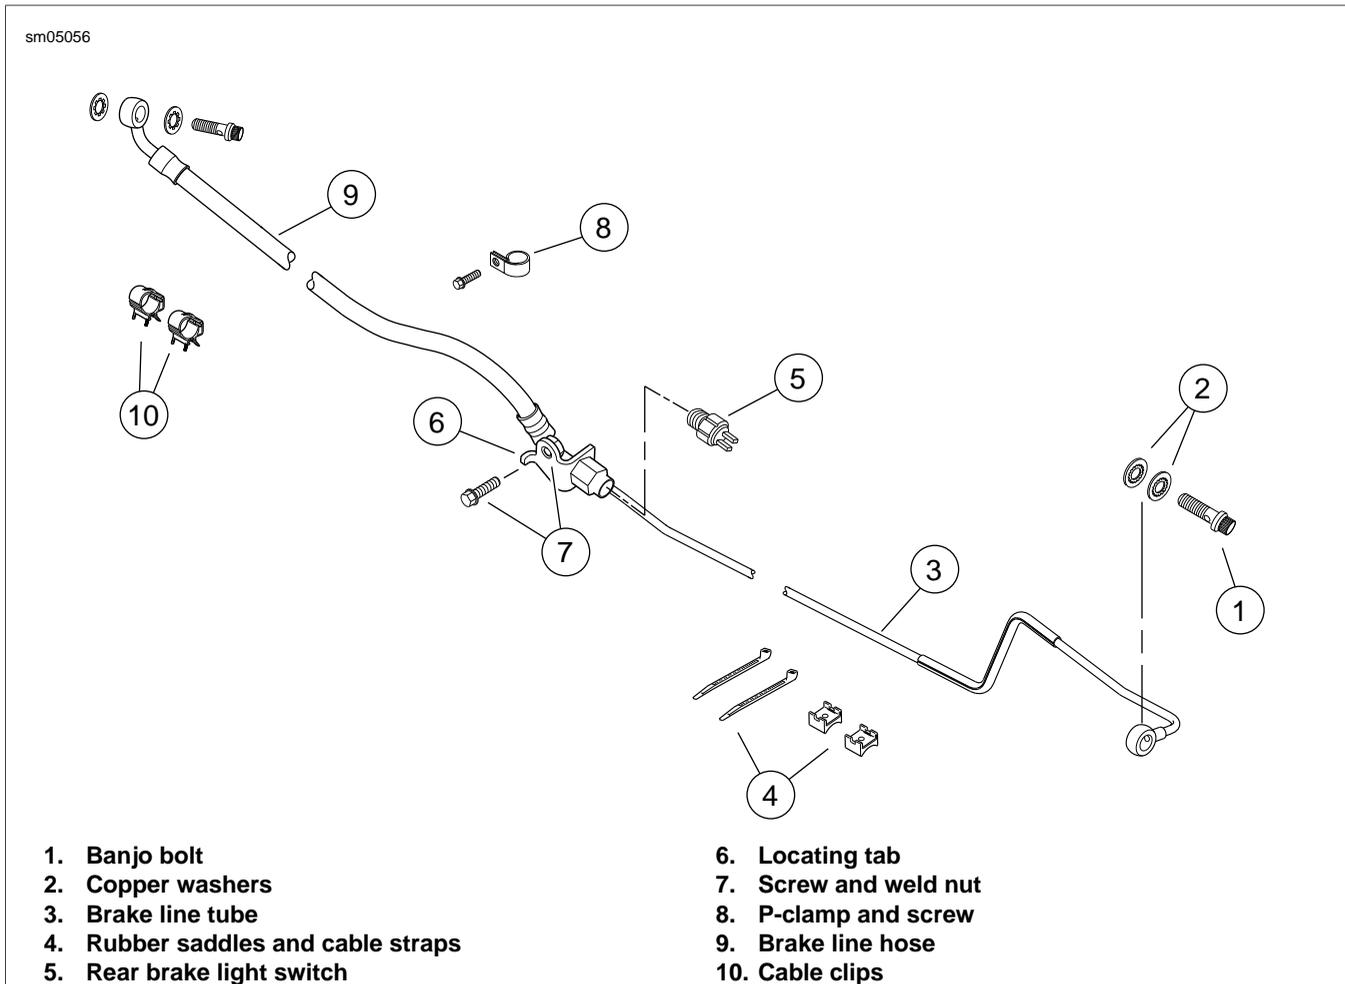

Figure 2-50. Rear Brake Line Assembly
5. Cut cable straps to free rear brake line from two rubber saddles anchored on T-studs at top of lower frame tube. See Figure 2-50.